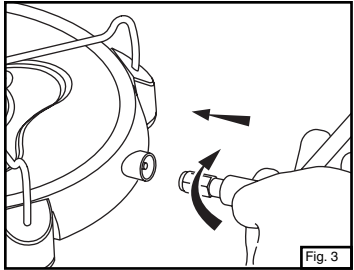

Fig. 3
- Screw regulator into stove hand tight. (Fig. 3)